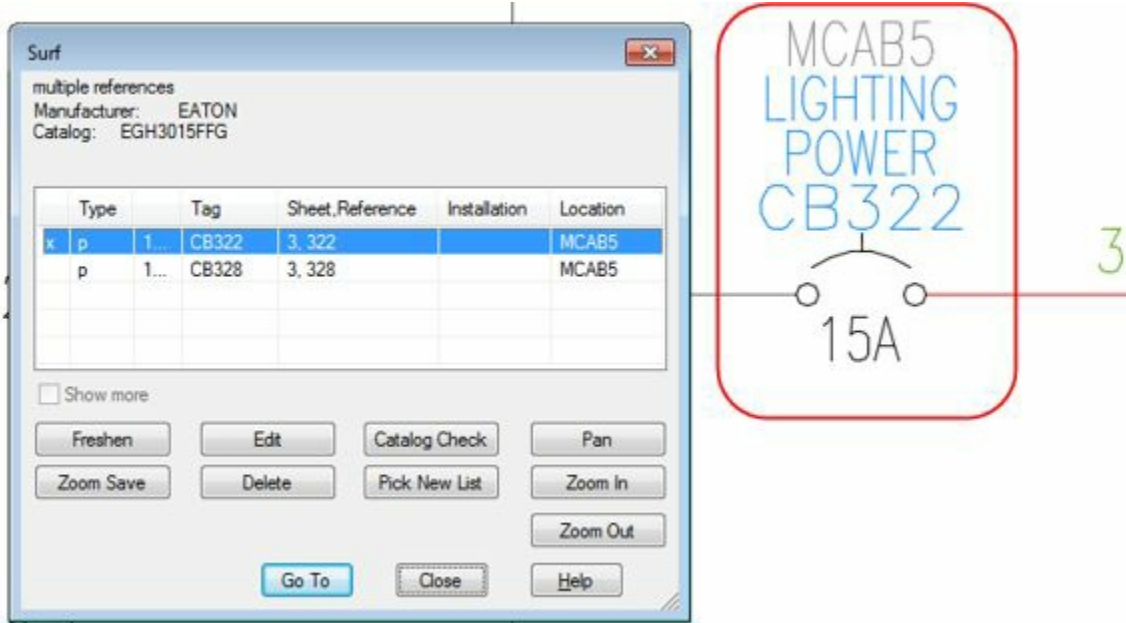

Figure-41. Surf dialog box with component in drawing
- Select the item from the list and click on the **Go To** button. The component will be displayed in the corresponding drawing and the **Delete** button will become active; refer to Figure-41.